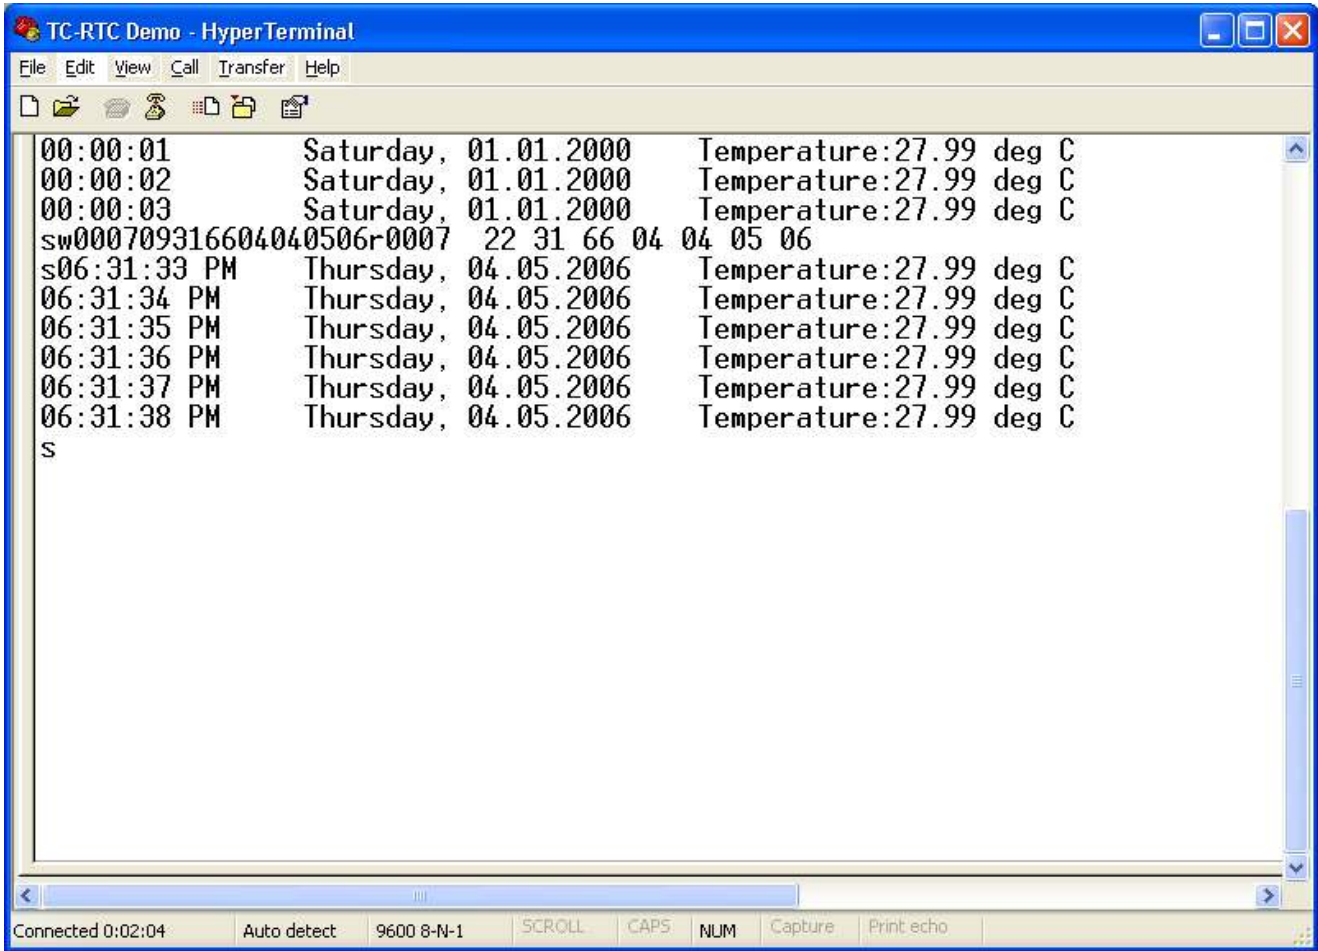

Figure 5. Interacting with the TC-RTC—HyperTerminal Session
2. Depending on which type of debug adapter you have, set up the hardware as shown in one of the two diagrams below (Figure 4, Figure 5). Consult the C8051F300DK User's Guide if you need detailed instructions.